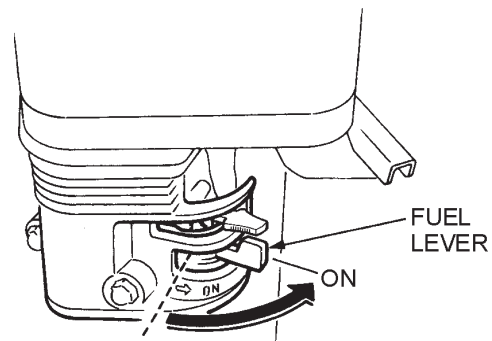

Figure 15. Engine Fuel Valve Lever
1. Place the engine fuel valve lever (Figure 15) to the "ON" position.